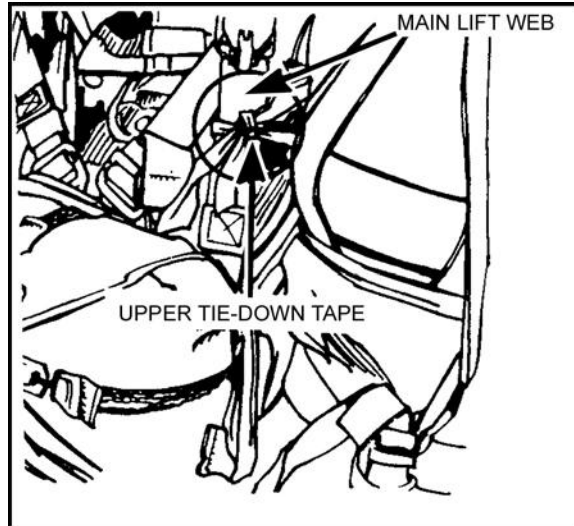

Figure 12-43. Upper tie-down.
- c. The upper tie-down tape is routed around the left main lift web directly below the chest strap. It is tied snugly with a single-loop bowknot (Figure 12-43, page 12-42).